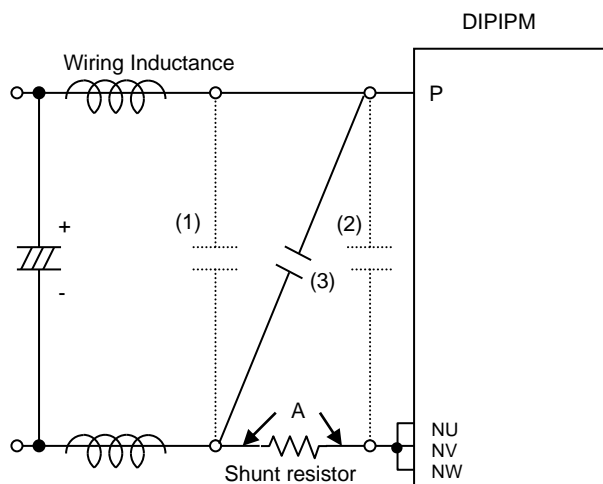

Fig.3-1-9 Recommended snubber circuit location
Normally there are two positions ((1) or (2)) to mount a snubber capacitor as shown in Fig.3-1-9. Snubber capacitor should be installed in the position (2) so as to suppress surge voltage effectively. However, the charging and discharging currents generated by the wiring inductance and the snubber capacitor will flow through the shunt resistor, which might cause erroneous protection if this current is large enough.